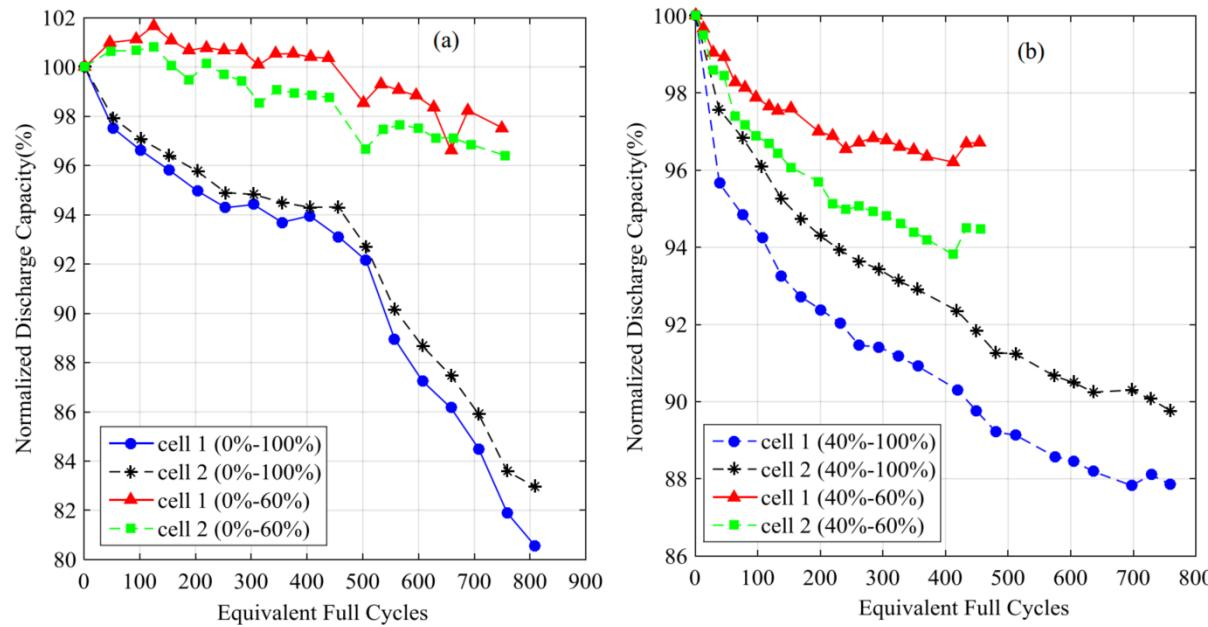

Figure 18: Capacity fade results for (a) Lower SOC = 0%, Upper SOC = 60%, 100%, (b) Lower SOC = 40%, Upper SOC = 60%, 100%, all at C/2 rate.
- The results for fixed lower SOC limits of 0% and 40% are shown in Figure 18 a) and b) respectively. The upper SOC limit has two different values of 60% and 100%. It is clear from Figure 18 that increasing the upper SOC limit increases the capacity fade (%). Increasing the upper SOC limit increases both mean SOC and Δ SOC, thus resulting in higher capacity loss rate.